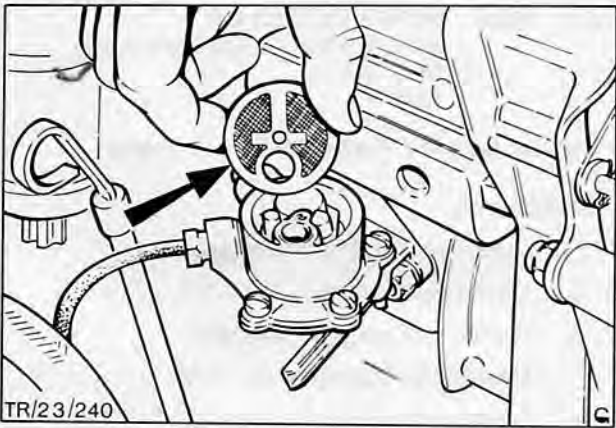

Fig. 66. Removal of pump filter
3. Remove a single screw, lift off pump cover and detach filter, Fig. 66.